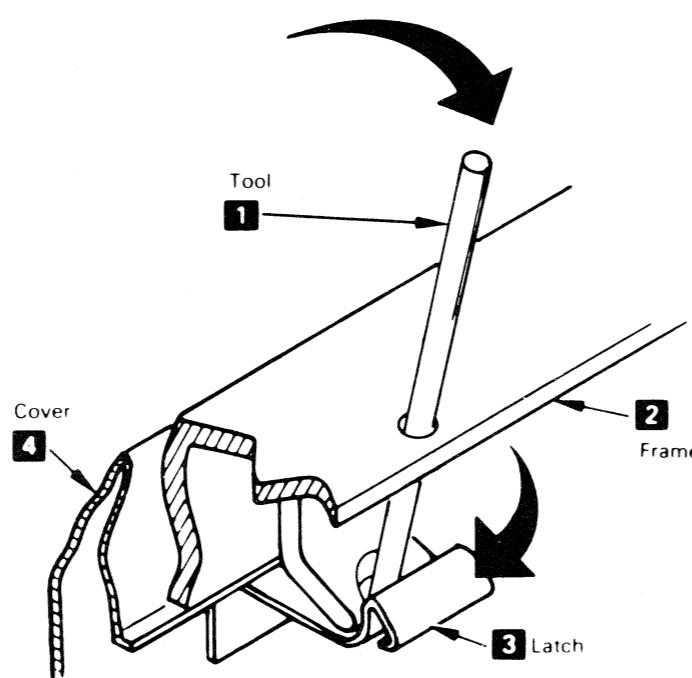

Figure 1. Front and Rear Cover Removal
2. Refer to Figure 1. To Remove front and rear covers **4**, insert a screwdriver **1** into the holes in the top of front and rear frames **2**, apply sidewise and slight downward pressure, to unhook the two latch springs **3** (one at a time) and then pull the cover outward.